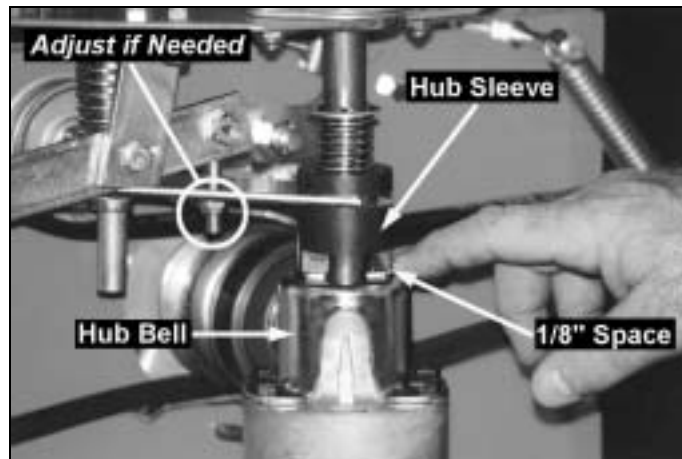

Figure 26
3. Engage and disengage the differential lever a few times, then check the clearance between the hub sleeve and the hub bell. There should be 1/8" clearance when the lever is disengaged (*Figure 26*).
4. If needed, adjust the nut in *Figure 26* and repeat steps 3 and 4 to get the proper measurement.